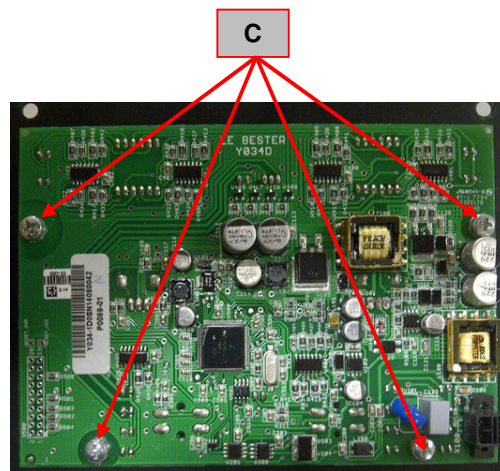

Figure 16
- Using the phillips PH02 screwdriver remove the four screws (C) that are fixing the UI board to the front UI metal panel. See **Figure 16**.